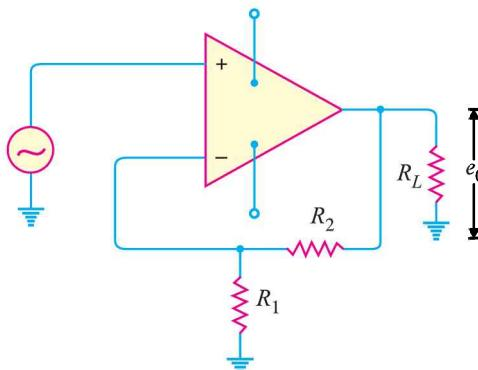

Fig. 13.30
6. Fig. 13.30 shows the negative feedback amplifier. If the gain of the amplifier without feedback is 10^5 and $R_1 = 100\Omega$, $R_2 = 100\text{k}\Omega$, find (i) feedback fraction (ii) gain with feedback.